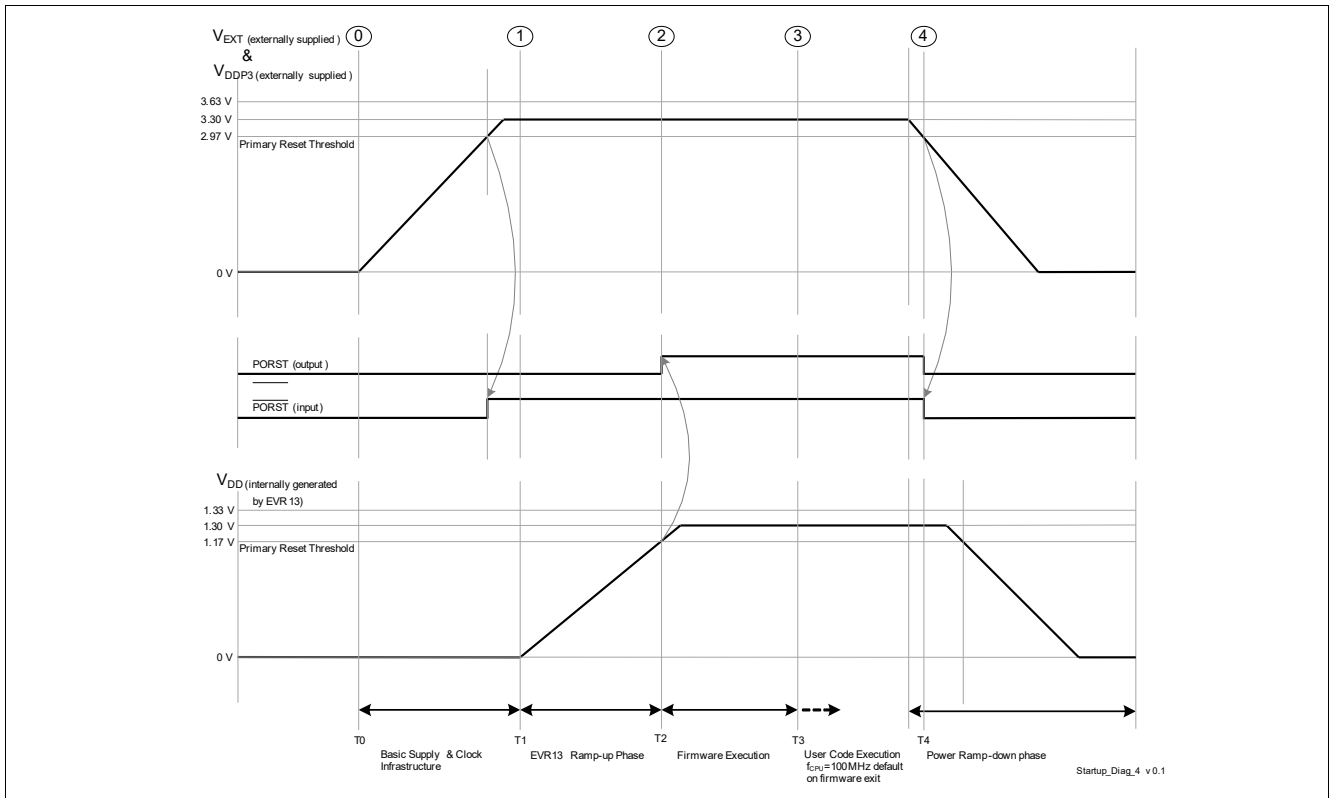

Figure 3-6 Single Supply Mode - 3.3 V single supply
- The power sequence as shown in Figure 3-6 is enumerated below